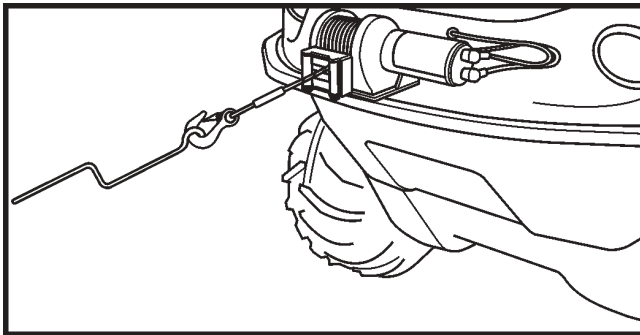

Figure 11-21. Using the Handsaver Bar.
7. Keep clear of winch wire rope and hook when operating winch. Never put your fingers through the hook when reeling in the last few feet of line. If your finger should become trapped in the hook, you could lose your finger. Use the HANDSAVER BAR (Figure 11-21) to guide the hook within the last few feet. Never guide a wire rope onto the drum with your hand.